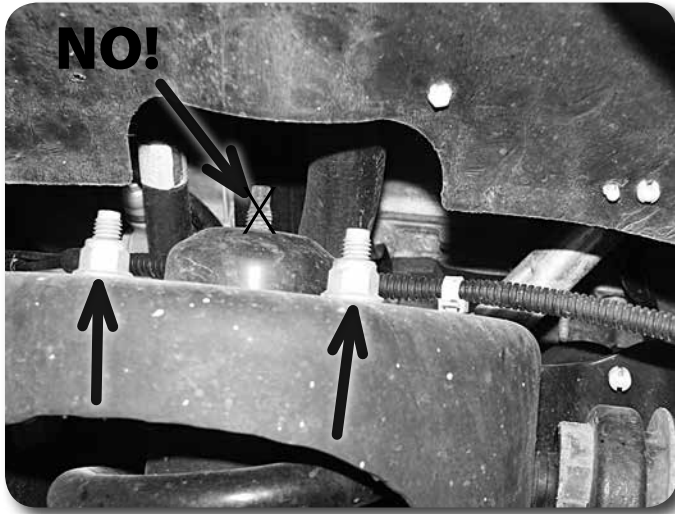

Figure 7
13. Loosen but do not remove the three strut assembly mounting nuts at the frame **Figure 7**. Do not loosen the middle strut nut.